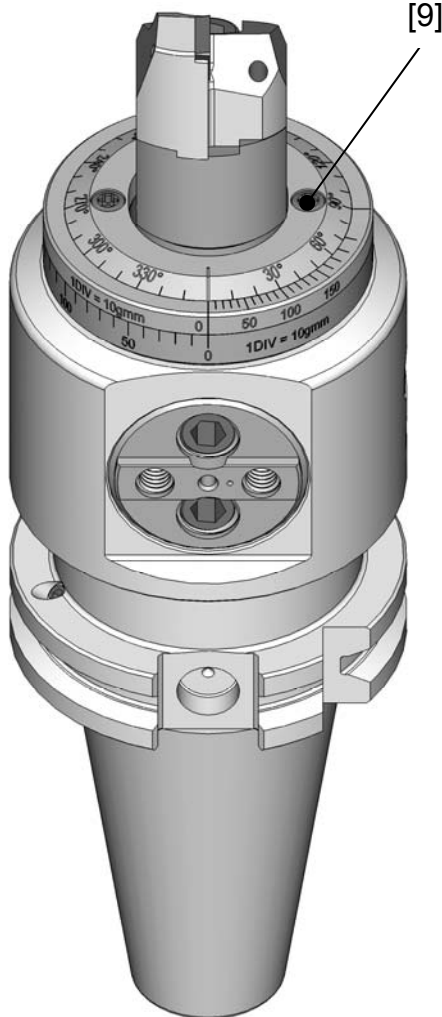

Fig. 1
2. Fig. 1: Set the adjustment rings [6] and [7] to the neutral position (value 0gmm at 0° on the angular scale [8]) and clamp them by means of tightening screw [9] (Torx Plus 15IP).